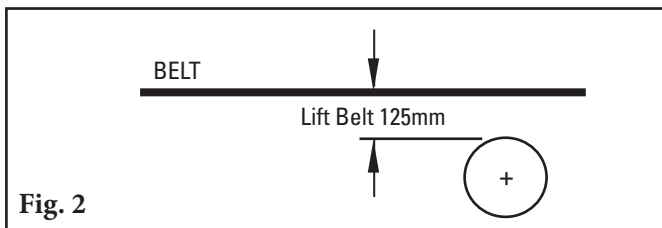

Fig. 2
- 2. Lift the belt** approximately 75mm where the trainer will be installed. Remove existing idler (if applicable) (Fig. 2). **NOTE:** If the conveyor has disc idlers, replace one idler with a standard idler before and after the location where the trainer will be installed.
2. **Lift the belt** approximately 125mm where the trainer will be installed. Remove existing idler (if applicable) (Fig. 2). **NOTE:** If the conveyor has disc idlers, replace one idler with a standard idler before and after the location where the trainer will be installed.